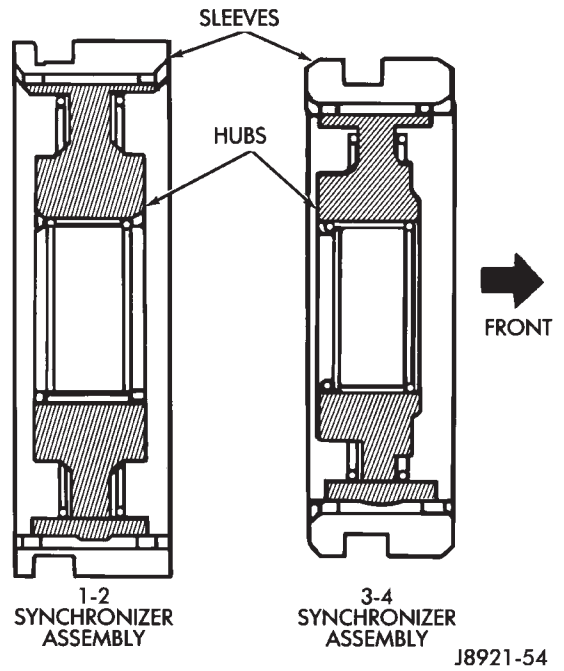

Fig. 47 Synchronizer Identification
(6) Lubricate transmission components with specified gear lubricant.
(7) Assemble 1-2 and 3-4 synchronizer hubs, sleeves, springs and key inserts (Fig. 47).